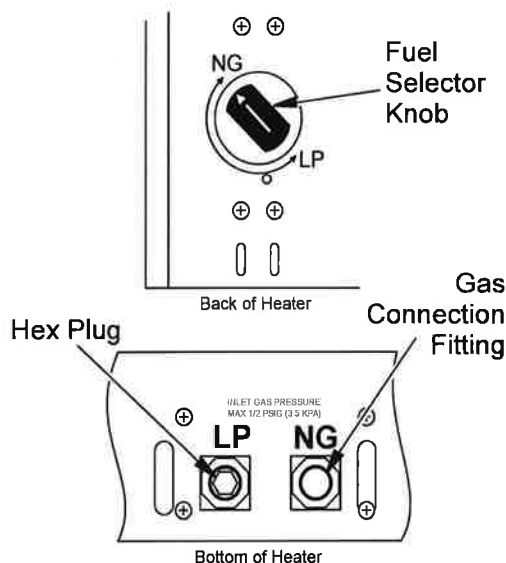

Figure 5 - Settings for Natural Gas Selection
1. Remove 2 screws from cover plate located on back of heater to expose fuel selection device (see Figure 5).
2. For NATURAL GAS, press knob using a flat screwdriver with a blade with thickness of a quarter and turn knob clockwise until the knob locks into the NG position (see Figure 5). Fuel selection device must be locked in the NG position. Do not operate heater between locked positions!
4. Remove hex plug (with wrench provided) from natural gas inlet of regulator (see Figure 5). Install hex plug into LP inlet of regulator. Install gas line into NG inlet of regulator. Use thread sealant to ensure that there are no leaks.